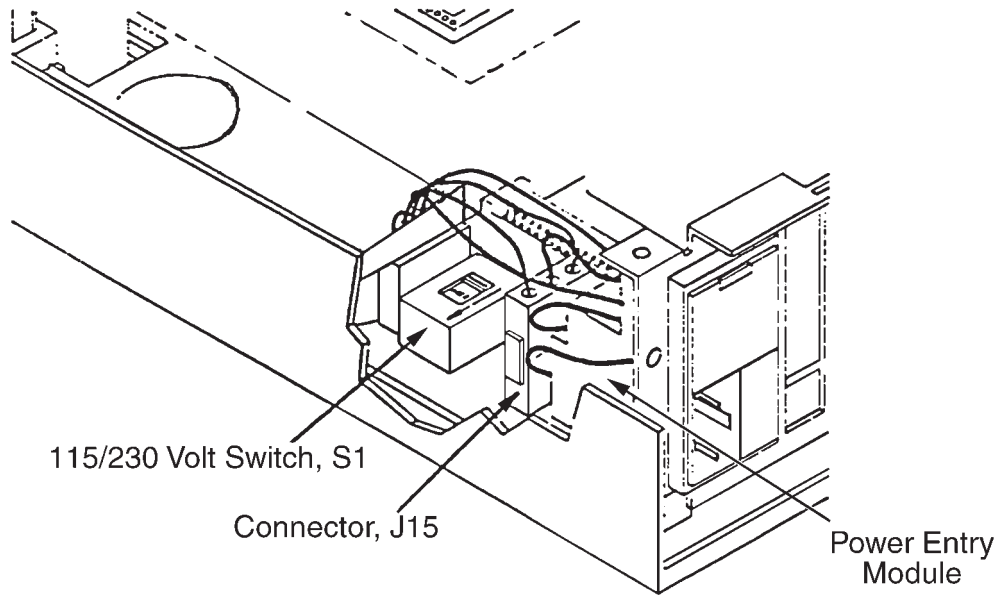

Figure 2-1. Setting Line Voltage
2. Set the line voltage by moving line voltage selector switch S1 (Figure 2-1) to either the 115 VAC (for 110 VAC or 115 VAC, 50/60 Hz) or 230 VAC position (for 220 VAC or 240 VAC, 50/60 Hz).